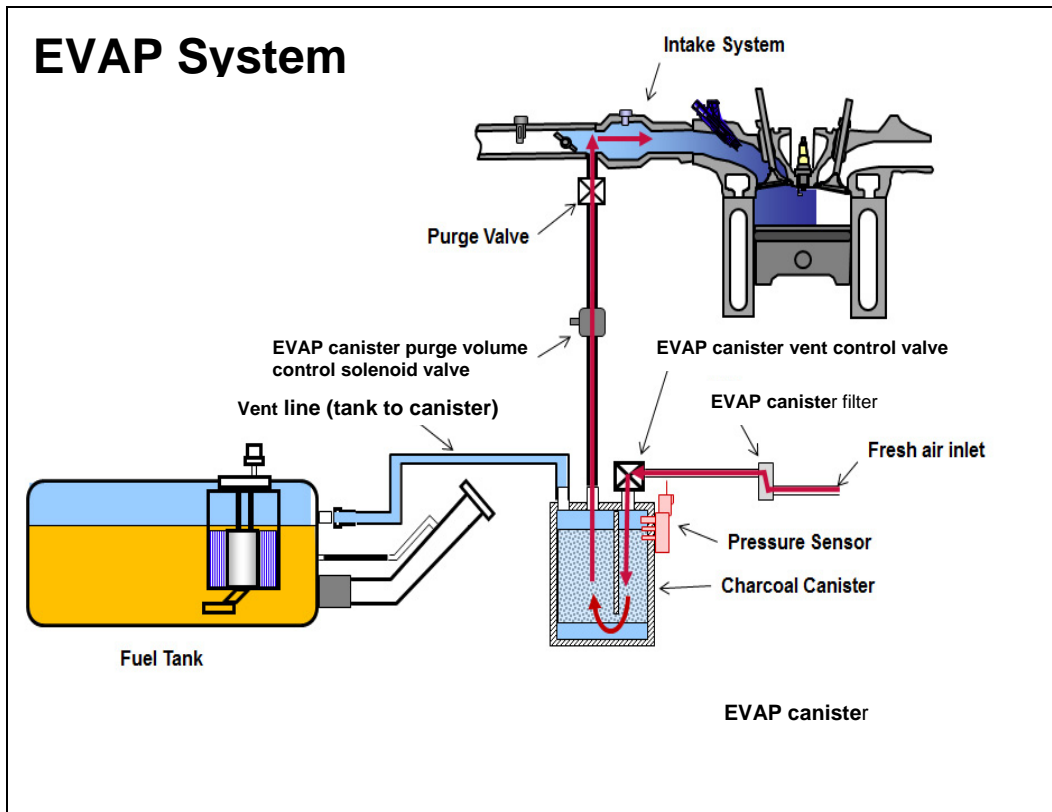

Figure 1
7. Is the vent line part of the tank assembly (refer to Figure 1 on the next page)?
Figure 1 below illustrates a basic evaporative emissions system and is for reference only.